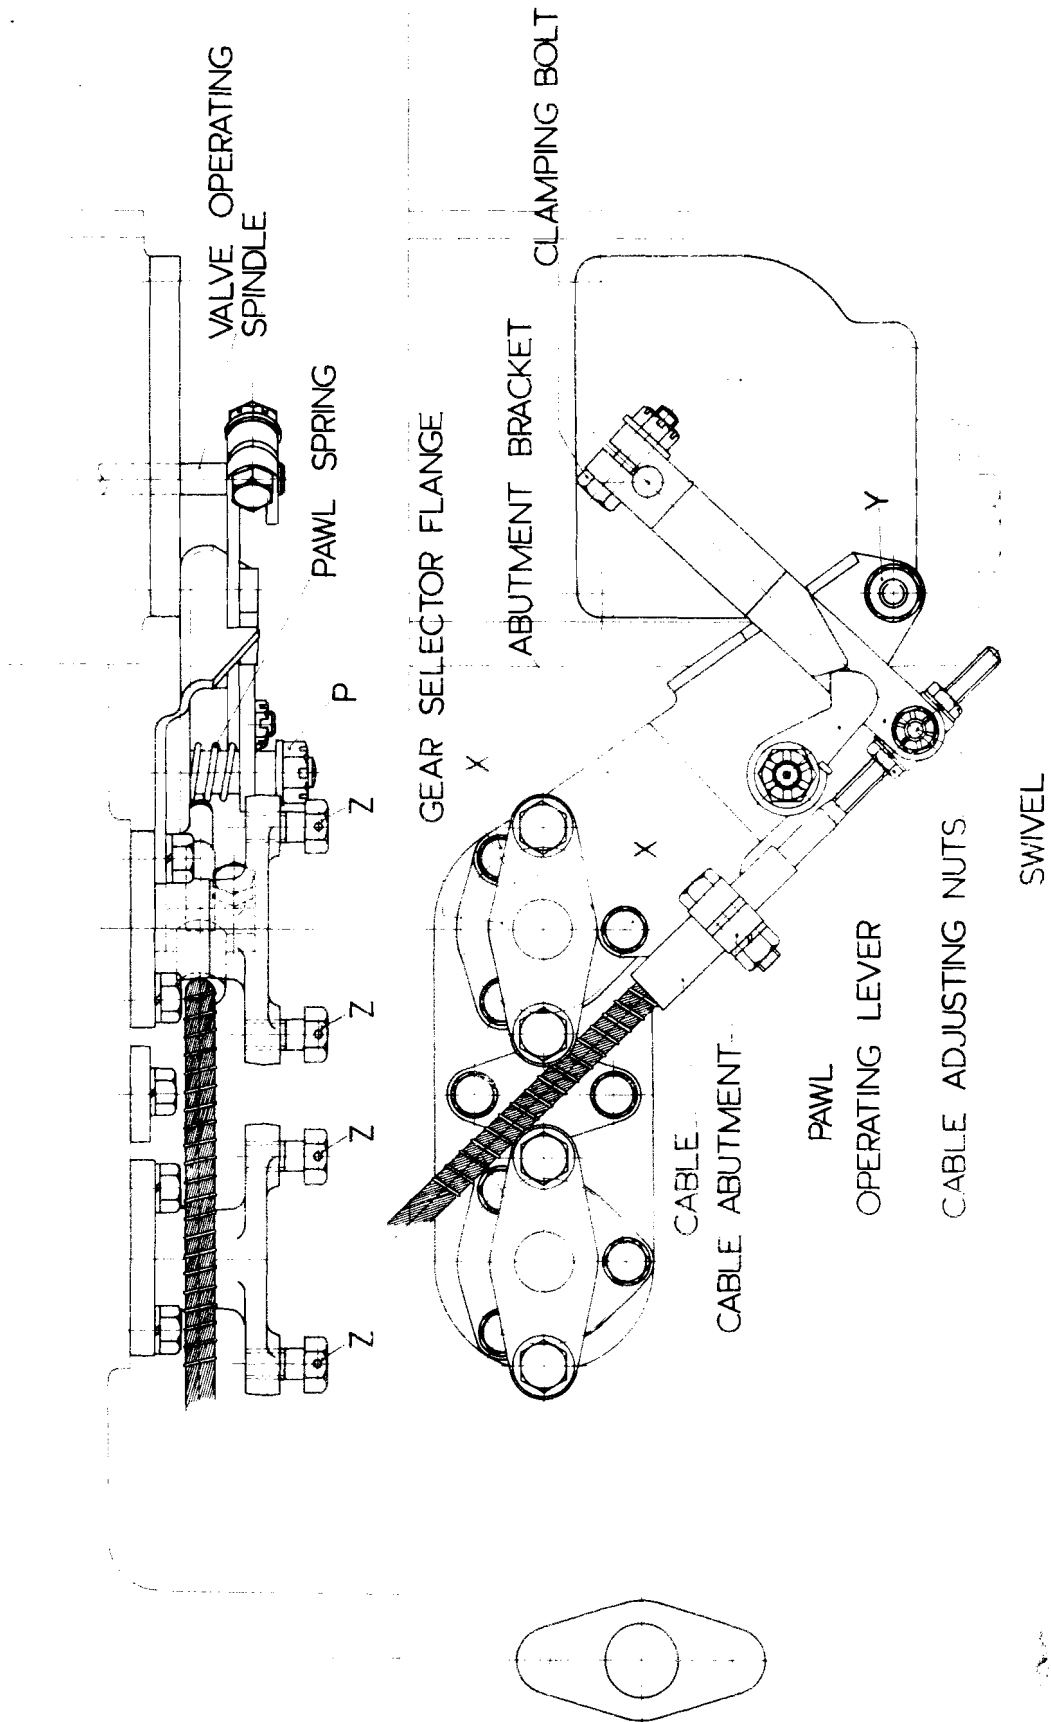

Fig. 14. Showing attachment of overdrive cable, lever and abutment to gearbox (L.H.S.).
1. Remove the two bolts marked X in Fig. 14, and assemble abutment bracket as shown under the two bolts marked X and the nut marked Y.
2. Fit the two selector flanges supplied with the Overdrive Unit utilizing the special bolts marked Z in Fig. 14.